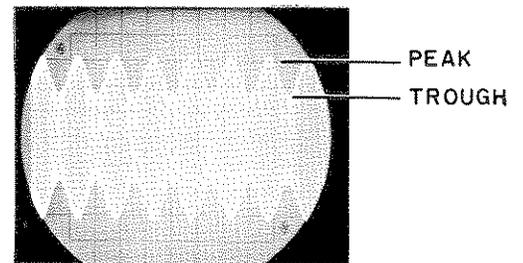

Figure 4-4. Typical Amplitude Modulated Carrier Waveform
5. Adjust audio oscillator amplitude output level for 30% amplitude modulation level as indicated on oscilloscope display (1.5 cm peak-to-trough modulation signal as shown in Figure 4-4).